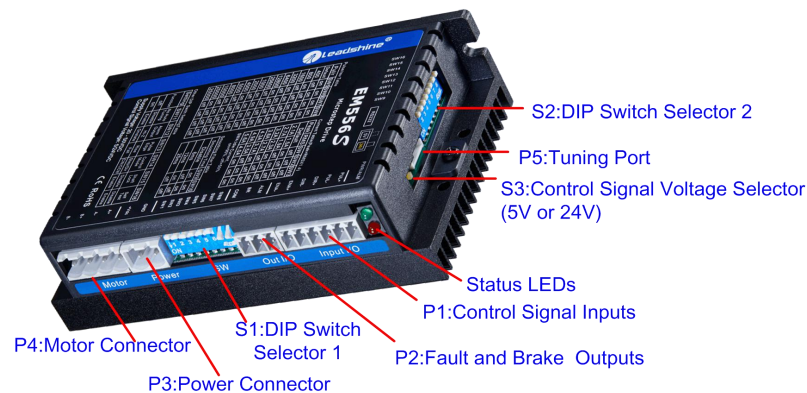

Figure 2 Connectors, DIP switches, and LED locations
PUL+ (CW+)	Pulse and Direction Connection: (1) Optically isolated, high level 4.5-5V or 24V, low voltage 0-0.5V (2) Maximum 200 KHz input frequency, 500KHz customized model is available (3) The width of PUL signal is at least 2.5μs, duty cycle is recommended 50% (4) Single pulse (step & direction) or double pulse (CW/CCW) is set by DIP Switch SW14 (5) DIR signal requires advance PUL signal minimum 5 μs in single pulse mode (6) The activated edge of PUL and DIR is set by DIP Switch SW13 (7) The factory setting of control signal voltage is 24V, must need to set S3 (figure 2) if it is 5V
The EM556S can accept differential or single-ended control signals (pulse, direction, and enable) in open-collector or PNP connection through the P1 connector (figure 2). It is recommend to add an EMI line filter between the power supply and the drive to increase noise immunity for the drive in interference environments.
The first 8-bit is located on the side (DIP switch selector 1 in Figure 2) and used to configure settings of micro step resolution, output current, and motor standstill current as shown below, the factory setting of SW1-SW8 is **OFF, OFF, OFF, OFF, OFF, OFF, ON, ON**.
The second 8-bit DIP switch is located on the top (DIP switch selector 2 in figure 2), and used to configure settings of control command filtering time, motor auto-configuration, fault output impedance, pulse active edge, control mode, lock shaft, and self-test as shown below, the factory setting of SW1-SW8 is **OFF, OFF, OFF, ON, ON, OFF, OFF, OFF**.
The Third 1-bit selector is located on the top (DIP switch selector 3 in figure 2), used to configure the voltage of control signals. For the safety of optically coupled, the factory setting is 24V, which no need to connect 2K resistors like the old drives, making it easier to use. When the voltage of the control signal is 5V, the S3 must be set to 5V, otherwise, the motor won't work.